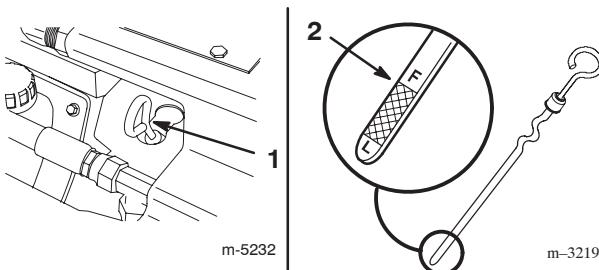

Figure 2
4. Clean around the oil dipstick (Fig. 2).
5. Pull out the dipstick and wipe the metal end clean (Fig. 2).
6. Slide the dipstick fully into the dipstick tube (Fig. 2).